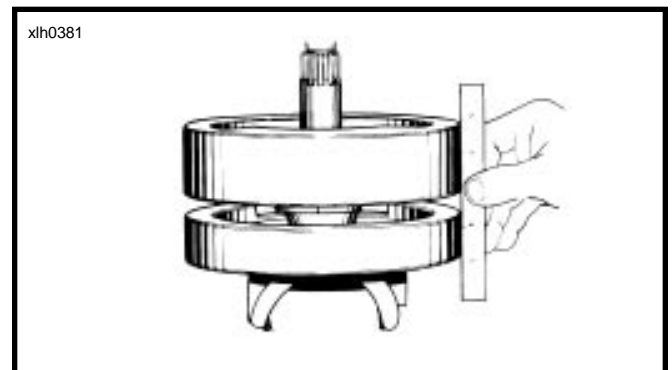

Figure 3-83. Squaring Flywheel Faces
8. See Figure 3-83. Hold steel straightedge along outer face of wheel rims at 90° from crank pin as shown. Tap outer